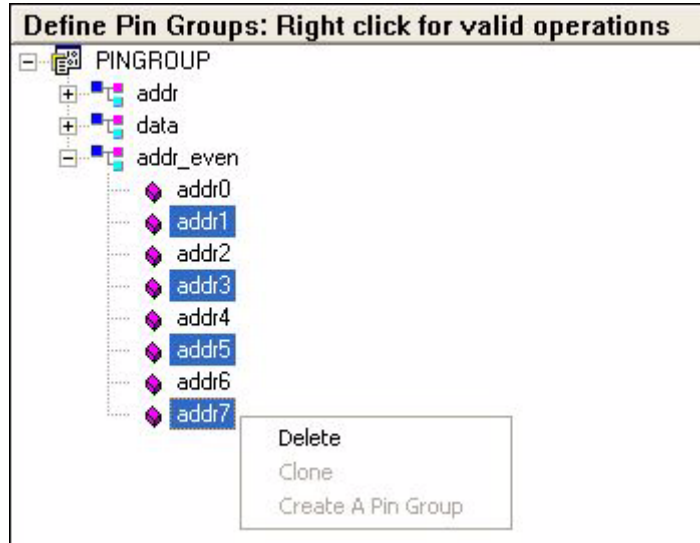

Figure 3-45. Deleting Pins from a Pin Group
- 10 Selecting the `addr_even` pin group expand (+) button opens the tree to display the component pins. Selecting the odd numbered channels and right-clicking displays a pop-up menu that contains a `Delete` command (Figure 3-45).